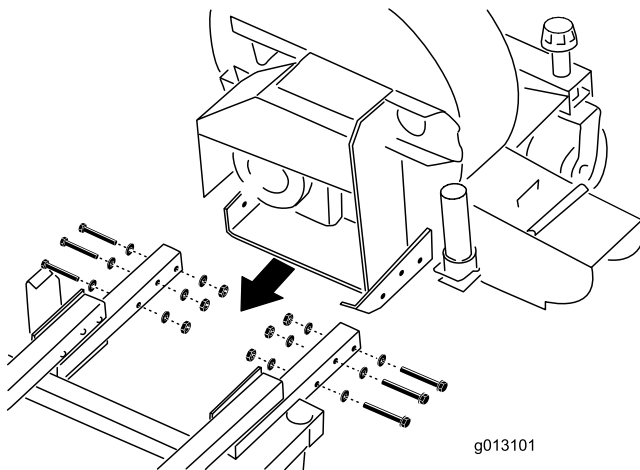

Figure 6
2. Slide the blower into the attachment frame arms and loosely secure it using 6 bolts (7/16 x 3 inches), 6 locknuts (7/16 inch), and 12 washers (Figure 6).